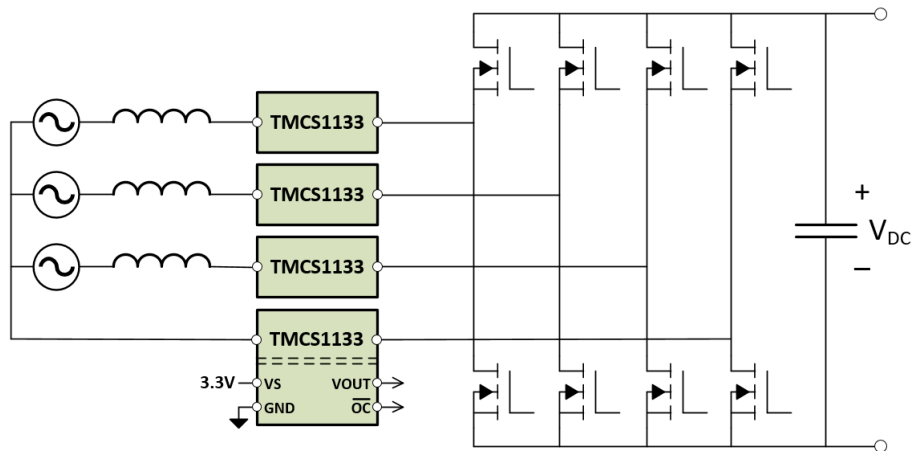

Figure 9-2. AC to DC Converter Current Sensing
In many applications, power must be converted from AC sources for use in DC circuitry. Some type of controlled power factor correction (PFC) stage is usually needed to improve power transfer efficiency. Faster and faster power switches are being used in modern PFC stages to reduce overall size and to improve power transfer efficiency. Often, the PFC stage of AC to DC converters is connected directly to AC power grids. A primary challenge to sensing in PFC stages is that the current sensor is subjected to large voltage spikes coming from the high-voltage (HV) power grid along with large transients coming from high speed power switches during charge transfer. Inherent isolation in the TMCS1133 construction helps overcome these challenges by providing high levels of isolation between the HV current sensing nodes and low-voltage control circuitry, with high common-mode transient immunity (CMTI). Figure 9-2 shows the use of the TMCS1133 measuring phase currents in a common AC to DC converter stage.